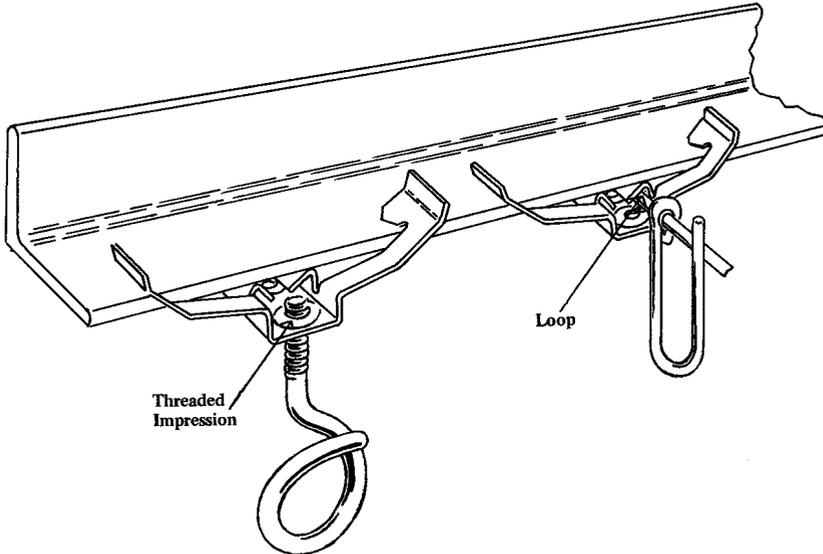

FIGURE 2
- 2.02 The clip may be attached to structural beam flanges ranging in thickness from 1/8" to 3/8", to wire from 12 through 8 gauge and to suspension rods ranging in diameter from 3/16" through 3/8"; see Figures 2 and 3.
- 2.03 Bridle rings or drive rings may be fitted to the loops located at the center of the assembly, Figure 2, or the loops may accommodate a No. 8 sheet metal screw.
- 2.04 Two threaded depressions are provided on one side of the clip. One of the depressions accepts a 10-24 machine thread and the other a 1/4-20 machine thread. See Figure 2.